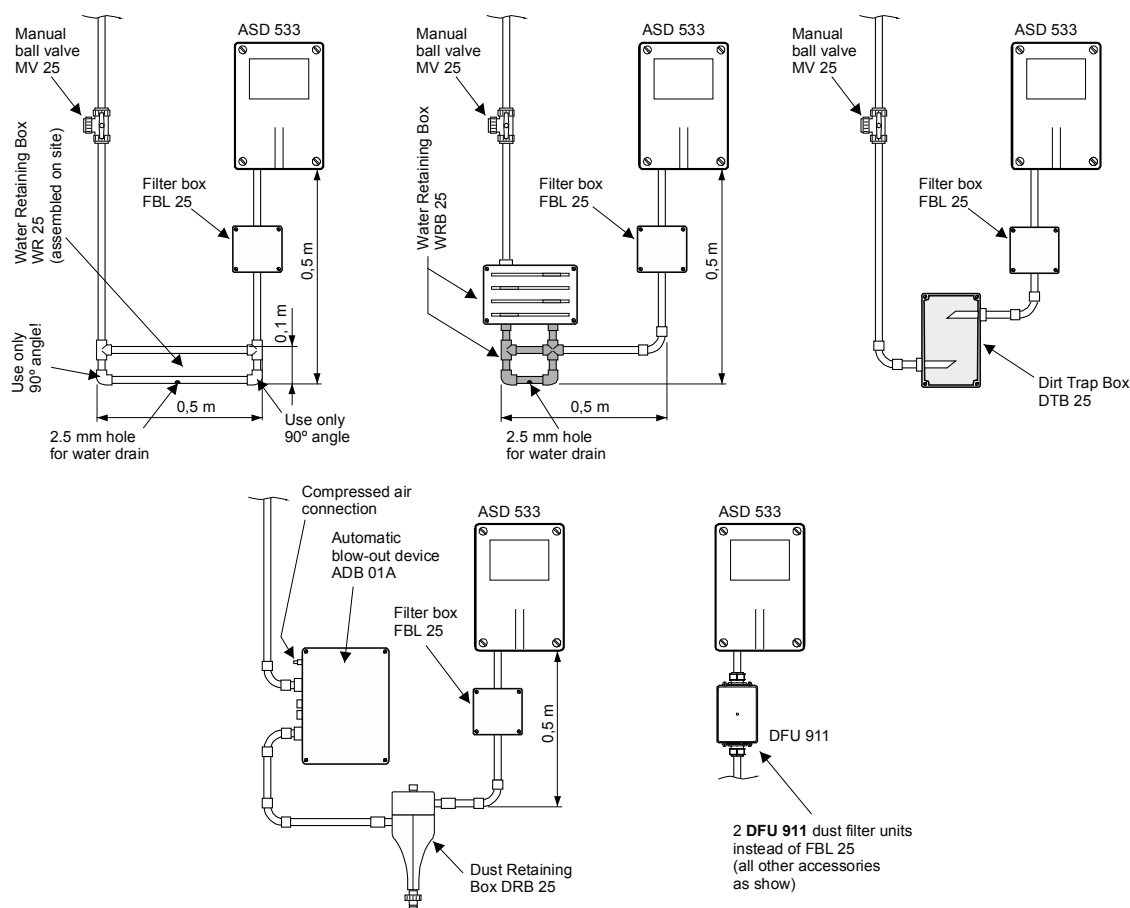

Fig. 30 Mounting accessory parts
- The mounting positions for the water retaining box, dirt trap box and dust retaining box must be observed as indicated in **Fig. 30**.